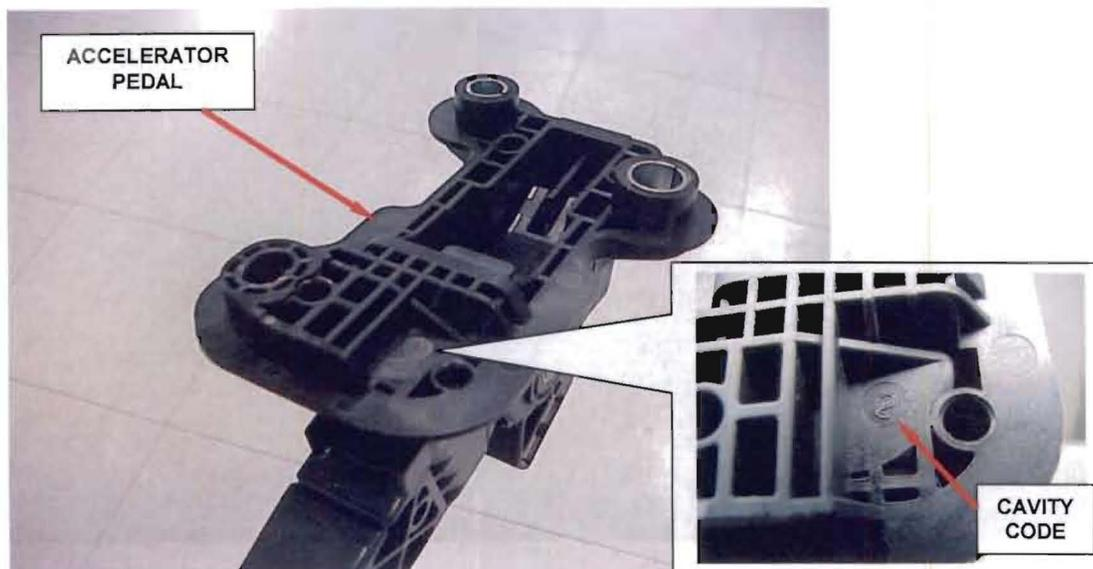

Figure 2 – Cavity Code Location
5. Inspect the cavity code located on the backside of the accelerator pedal (Figure 2):